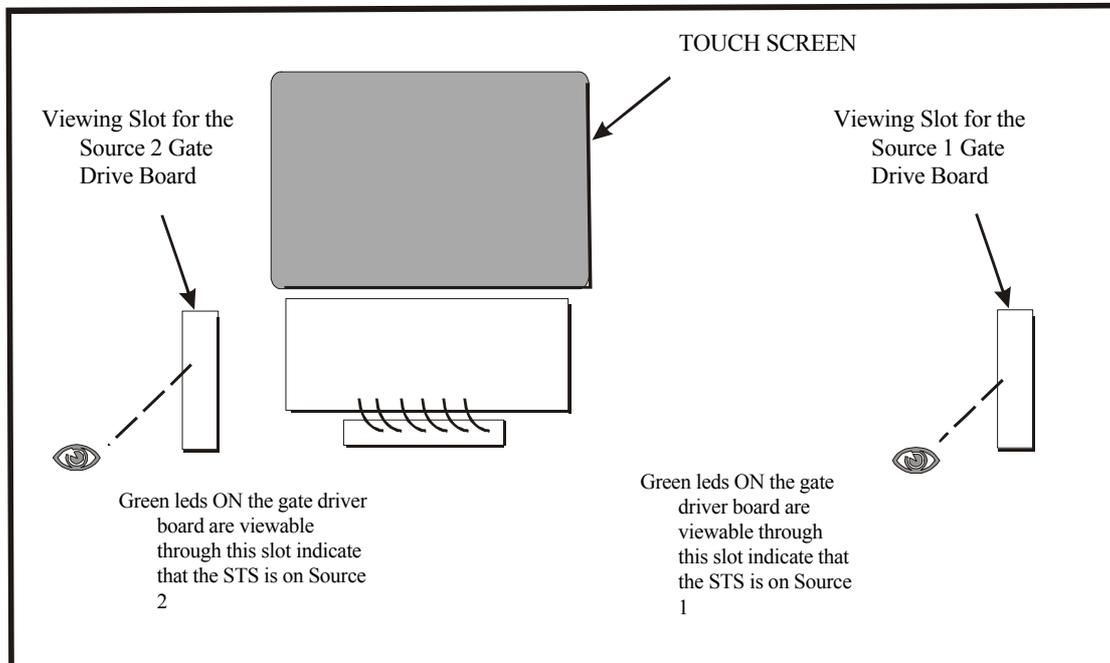

Figure 9-2 Gate board viewing slot locations
• If the LCD Display is not available, check the gate driver board LEDs through the slots in the control panel. See Figure 9-2.
- If the LCD display is not available, check the gate driver board LEDs through the slots in the control panel. See Figure 9-2.